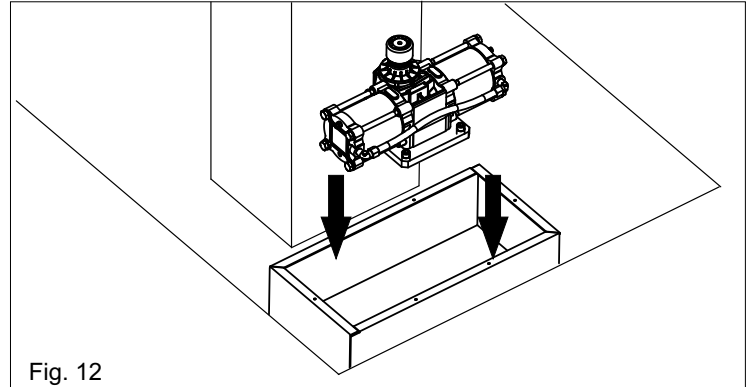
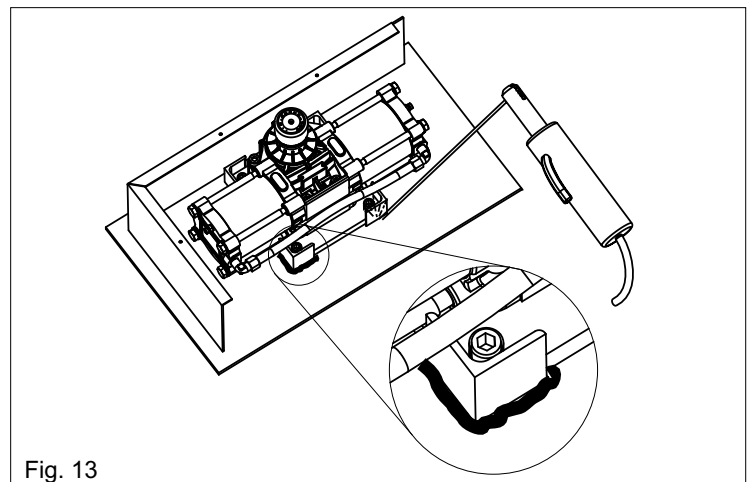

Fig. 12
Fig. 13
3.1. Place the jack inside the foundation box (Fig.12) positioning the axis of the output shaft aligned with the axis of the hinge of the gate and weld the four angular ends to fix the same (Fig. 13).